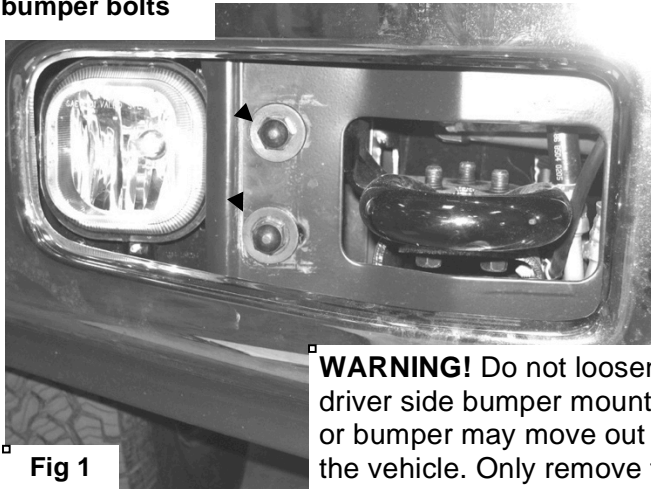

Fig 1
2. Start installation at the passenger side, front of the vehicle. Remove the (2) passenger side bumper bolts and double nut plate behind the bumper, **(Figures 1 & 2)**. **WARNING!** Do not loosen or remove the passenger and driver side bumper mounting bolts at the same time or bumper may move out of alignment or fall off of the vehicle. Only remove the bumper bolts from one side and install one Mounting Bracket at a time.